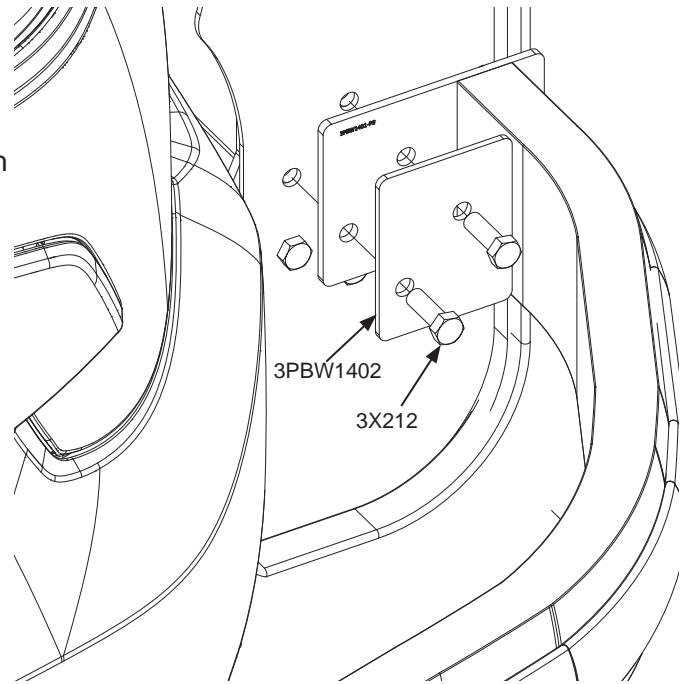

FIG. 4
- B. Hold the PBW5716-00PS wrap assembly along with backer plate PBW1401-PS and fasten the parts together using the longer 1-1/2" 3X212 bolts from kit, and re-use the lock washers and nuts. (Fig. 4)